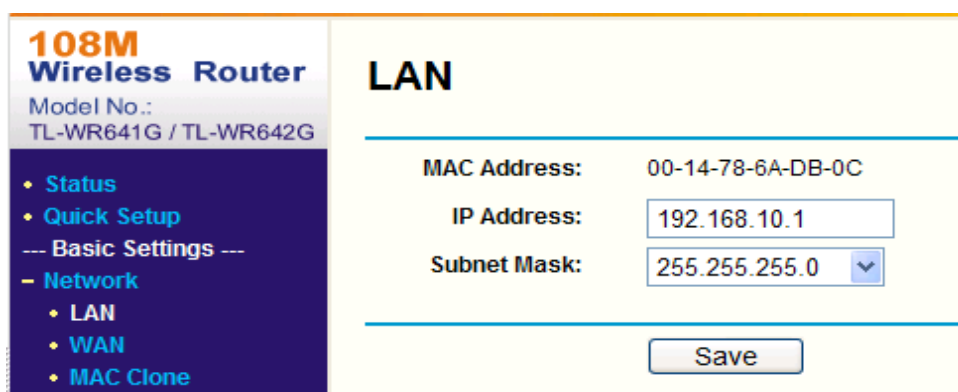

Figure 4.5.2 Set Network Parameters
**Step2:** Set the network parameters of the router as shown in Figure 4.5.2. The settings include IP address and subnet mask.